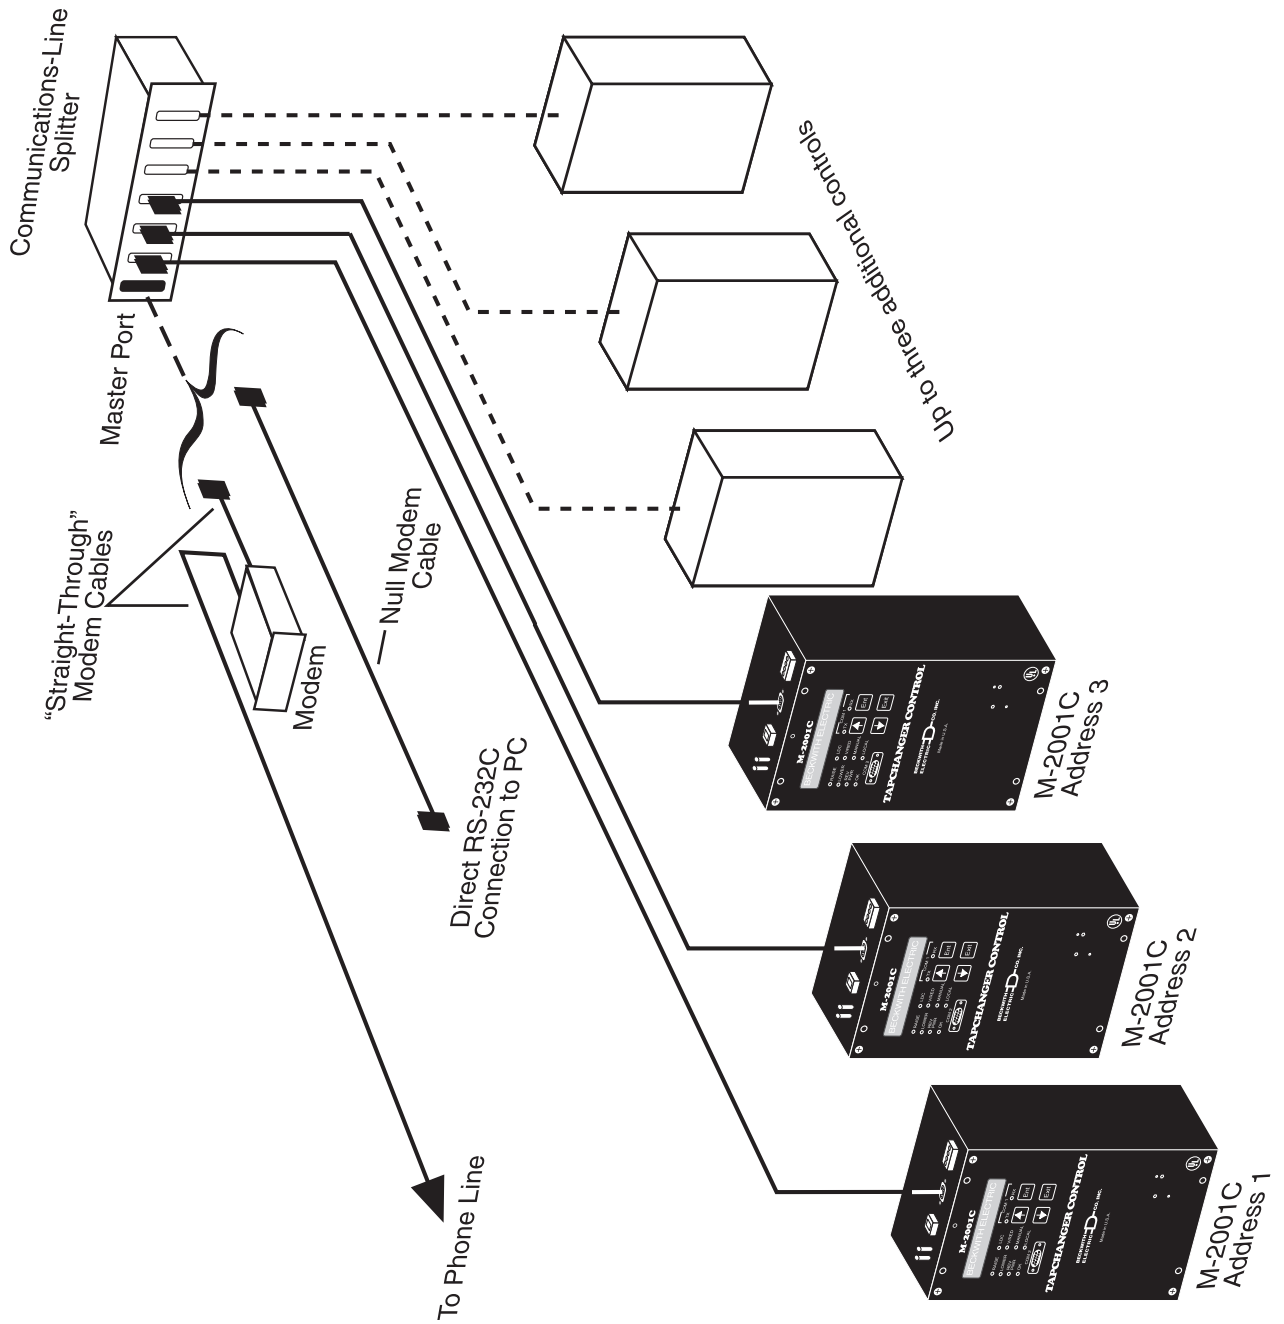
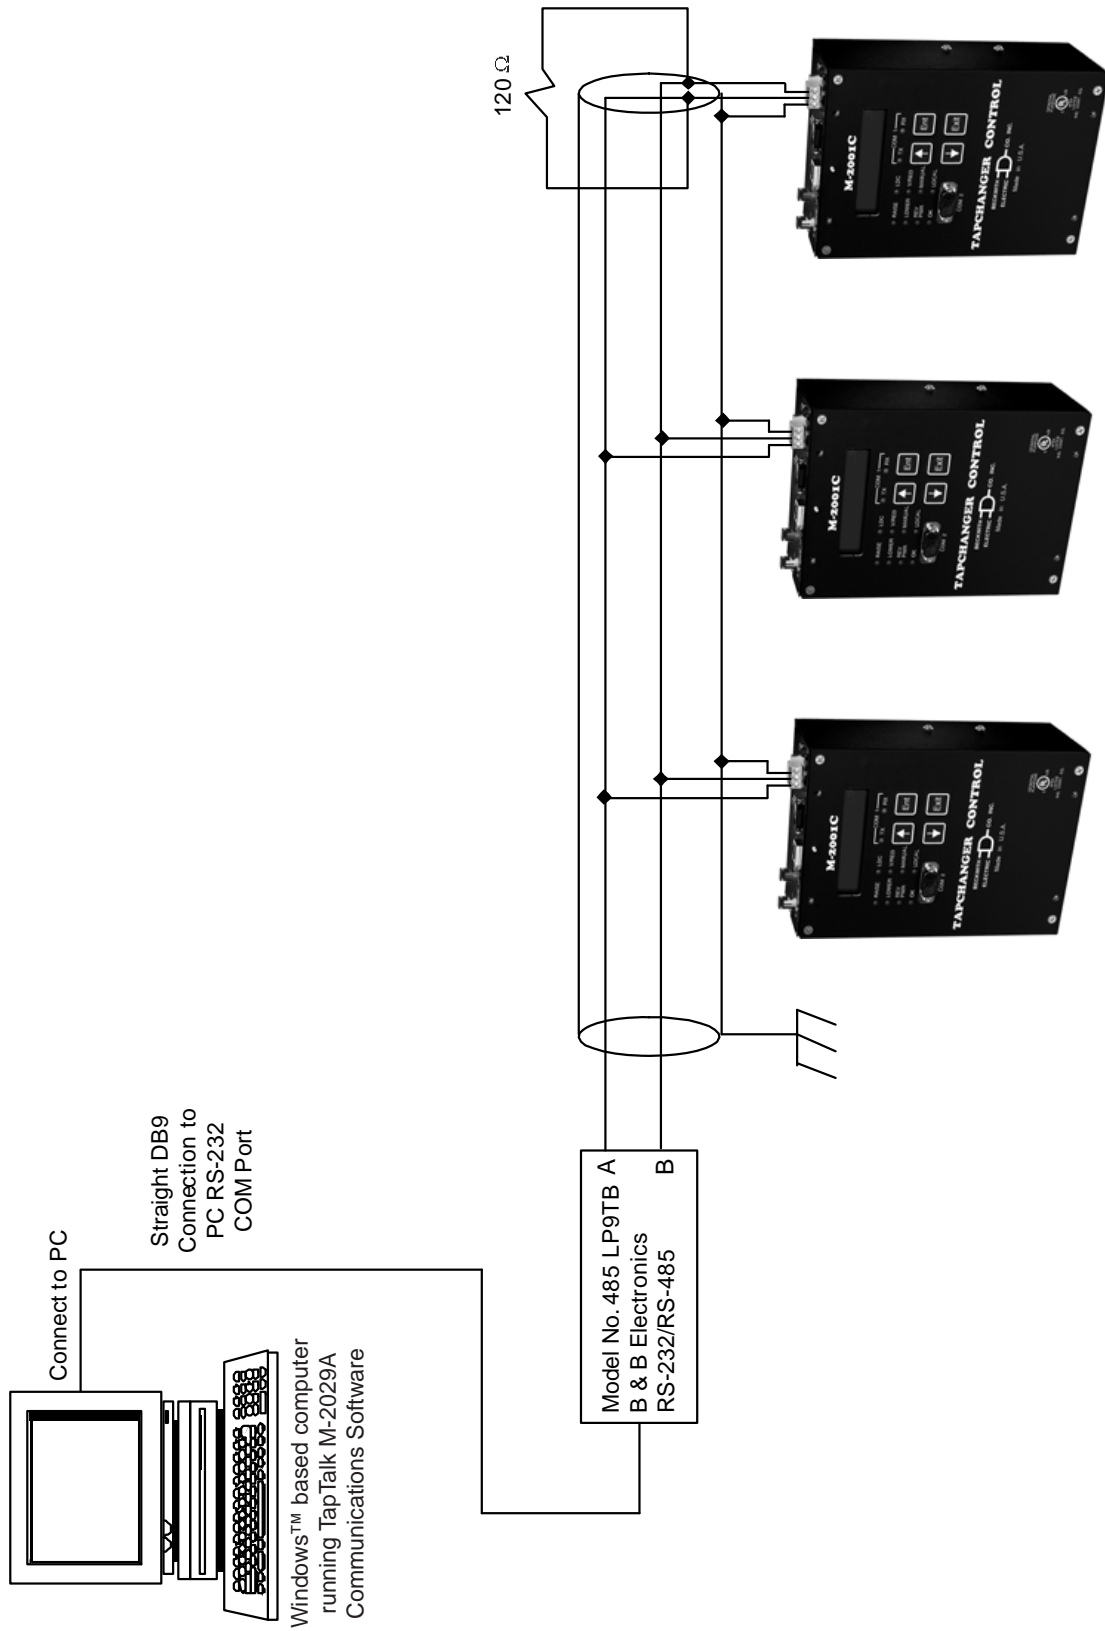
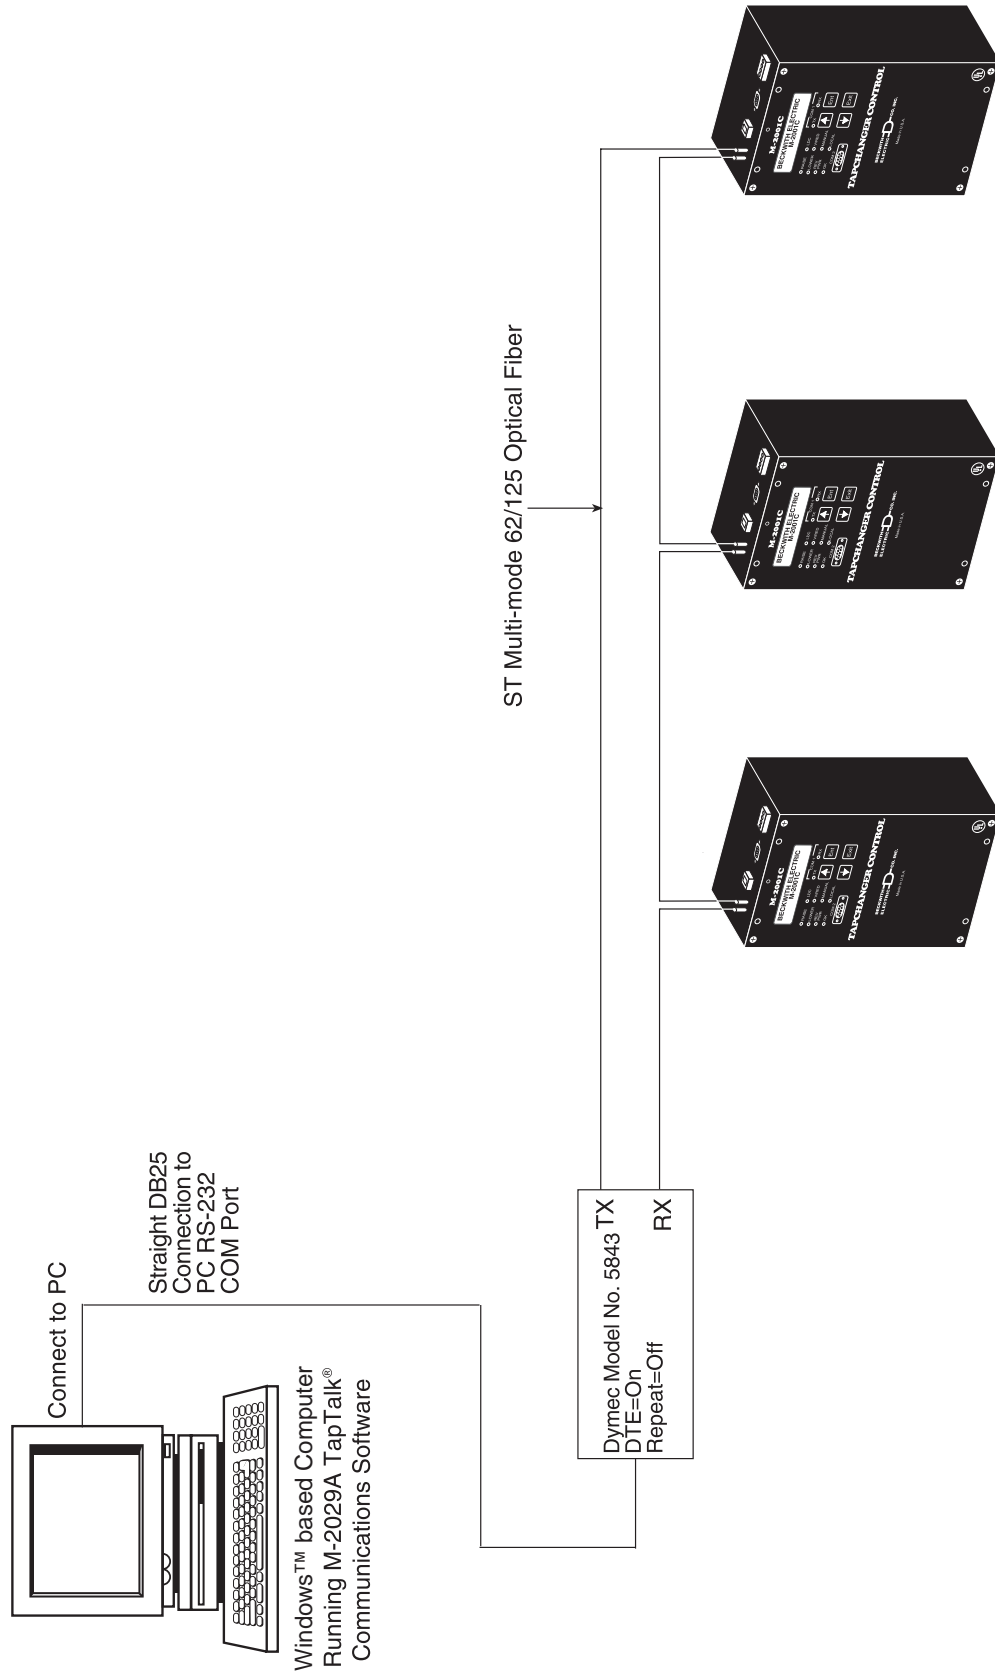

Figure 9-4 Multiple Control Addressing Using Communications-Line Splitter
Figure 9-5 RS-485 Connection Tree
Figure 9-6 Fiber Optic Connection Loop
3. From the control **Configuration** Menu, set the **Communication Address** of the control to a number not used by any other control sharing the same modem (serial connections and modems can be shared through the use of a communications line splitter, refer to Figure 9-4).
The remote addressing capability of TapTalk and the digital tapchanger control allows multiple controls to share a direct or modem connection. This can be done with standard RS-232 connections using a communications line splitter (see Figure 9-4, Multiple Control Addressing Using Communications Line Splitter). If using an M-2001C Tapchanger Control, a fiber optic loop network (see Figure 9-6, Fiber Optic Connection Loop) or RS-485 tree configuration (see Figure 9-5, RS-485 Connection Tree) may also be used. See Chapter 3, **Setting the Control** for more information on specific menu commands.